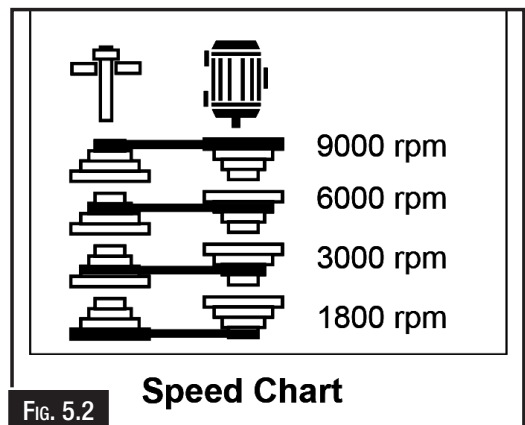

FIG. 5.2
4. Select the desired speed. There are four speeds: 1800 rpm, 3000rpm, 6000rpm, 9,000rpm. Fig. 5.2 shows the belt positions for each available speed.